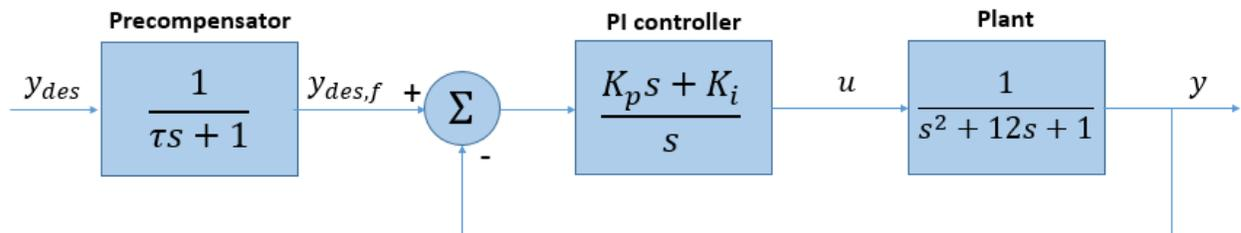
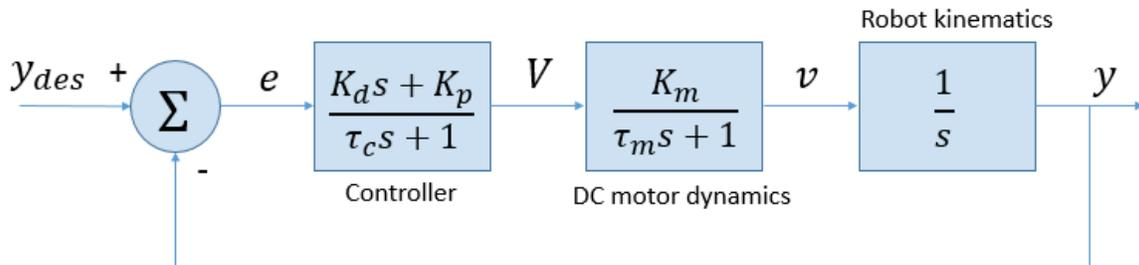

Figure 1: Control system (including plant) for problem 1.
Figure 5: Block diagram for Problem 3.
Problem 1: Figure 1 shows the block diagram for a control system whose objective is to make an output signal, y , track a human operator's joystick command, denoted by y_{des} . In order to filter out high frequency noise and vibrations from the human operator, the human input (y_{des}) is passed through a first order filter (known as a "precompensator") before being compared with y and sent to the main PI controller. The control signal (output of the main PI controller) is denoted by u , and the plant is represented by a second order transfer function as shown. Both the precompensator filter computations and PI controller computations are performed on a Renesas microcontroller.
- Identify all of the components (blocks) in Figure 1 that represent computations that occur on the microcontroller (simply draw a dashed line around the set of these blocks).
Problem 3: Figure 5 shows a block diagram for a feedback control system, where a DC motor is used to control the position of a robot through an applied voltage, V . The motor is approximated with a first order transfer function in Figure 1. The control objective is to get the output position, y , to track the setpoint, y_{des} . v represents the velocity of the robot. The controller is a filtered proportional plus derivative controller, also known as a *lead filter*.